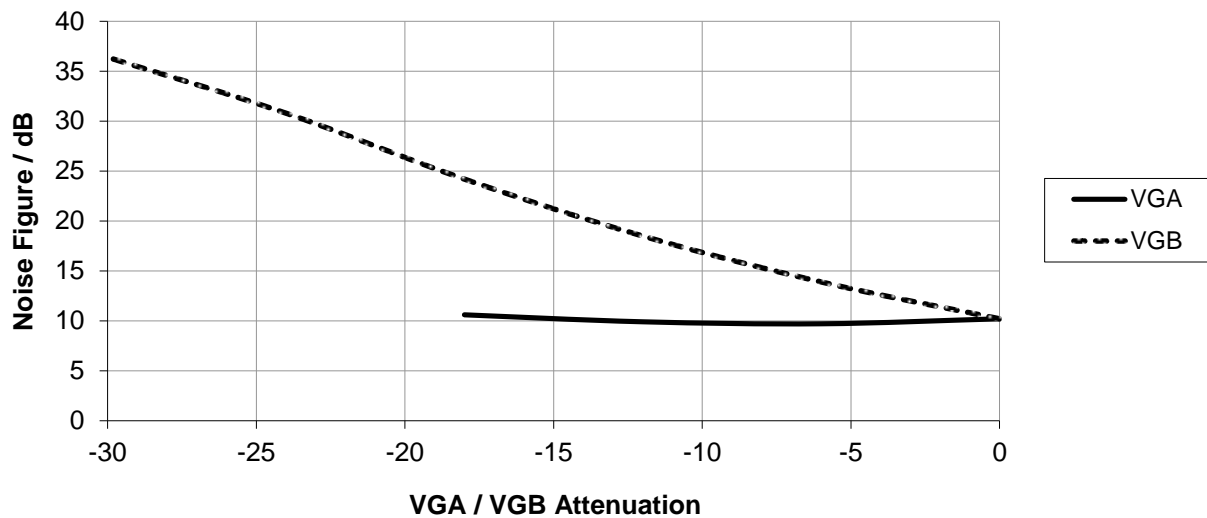
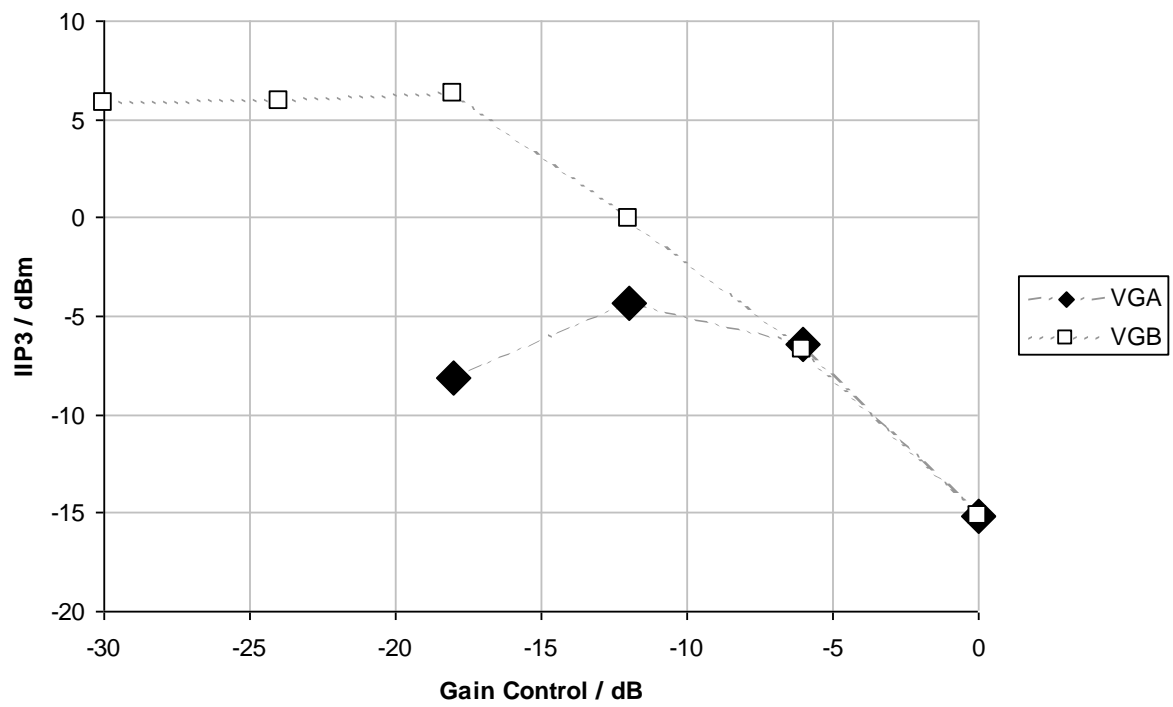

Figure 12 Variation in CMX970 Demodulator Noise Figure with VGA/VGB Control
Figure 13 Variation in Input Third Order Intercept Point with VGA/VGB Control
The control of gain using VGA and VGB has an impact on the performance of the CMX970 demodulator. The variation in noise figure (NF) is straight forward, with the IF gain control (VGB) having a direct impact on NF but, due to the gain before the I/Q section, VGA has little impact on NF (see Figure 12). The variation of intermodulation (IMD) is more complex, as shown in Figure 13, where performance is characterised by 'Input Third Order Intercept Point' (IIP3). At maximum gain IIP3 is at a minimum and, as would be expected, the IIP3 increases as the IF gain is reduced (VGB). The improvement reaches a plateau beyond the -18dB gain setting as the input stages limit performance at this level. Reduction in gain with VGA (I/Q gain control) also has a positive effect on IIP3. This is perhaps less intuitive but indicates that the intermodulation performance of the CMX970 demodulator chain is dominated by the output stages rather than IF or mixer stages. Thus -6dB or even -12dB VGA gain control settings can be used to achieve improved IMD performance for negligible change in noise figure (Figure 12), as long as the reduction in gain can be tolerated.